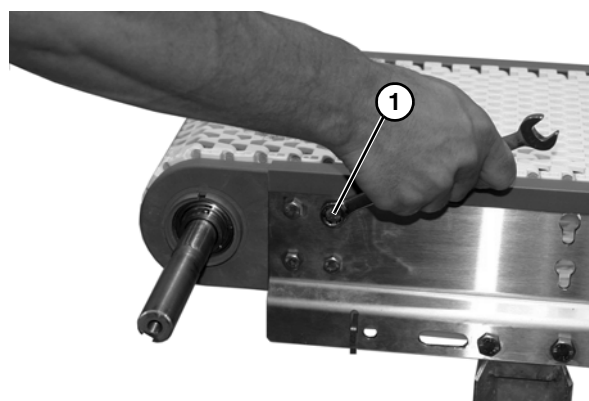

Figure 12
1. On side of conveyor motor is being installed, remove upper front head plate mounting screw (Figure 12, item 1).